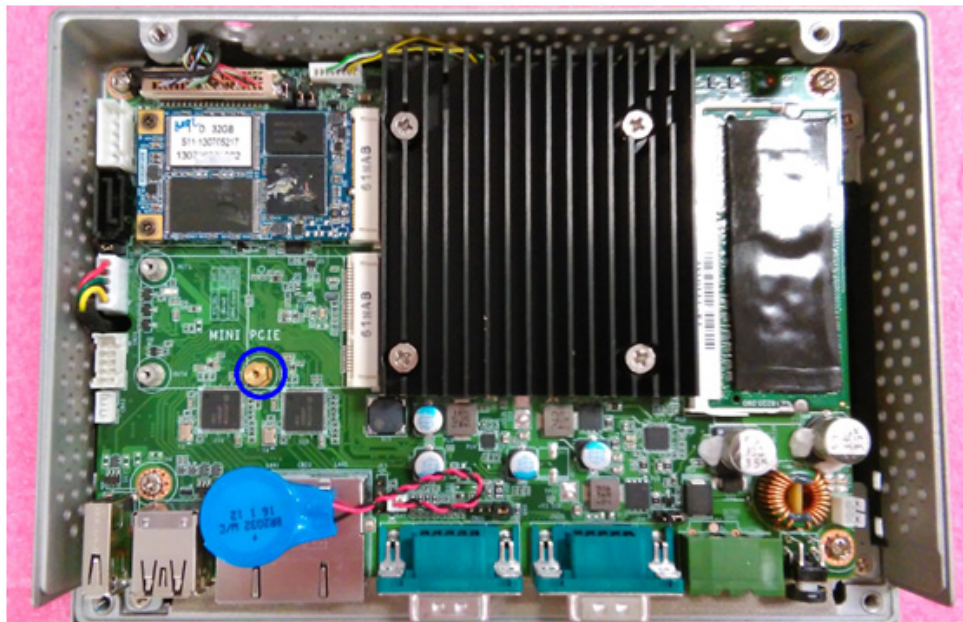

Figure 2.16 Location of Retention Screws
1. Get the hexagonal screw from the accessory box, locate it in the notch on the PCB and secure it. (See Figure 2.16)